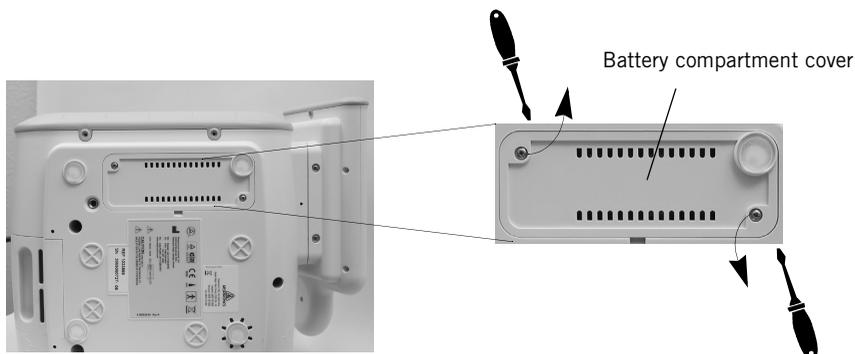

Figure 2: Remove the battery compartment cover.
1. Ensure that the ON/OFF switch is in the OFF position (O) and that the power cord is disconnected.
2. Turn the unit over, remove the two battery compartment cover screws, and battery cover as shown in Figure 2.